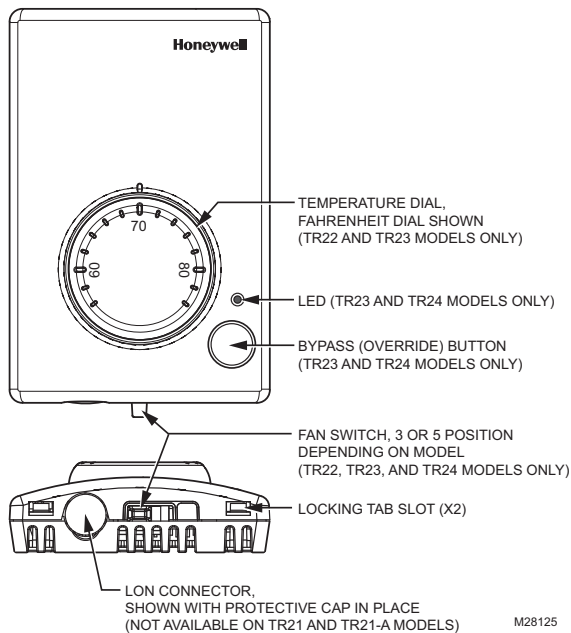

Fig. 2. Wall Module Features (TR23-F Shown).
1. Insert a thin, flat blade screwdriver into each of the two slots at the bottom of the module to release the two locking tabs. See Fig. 2.